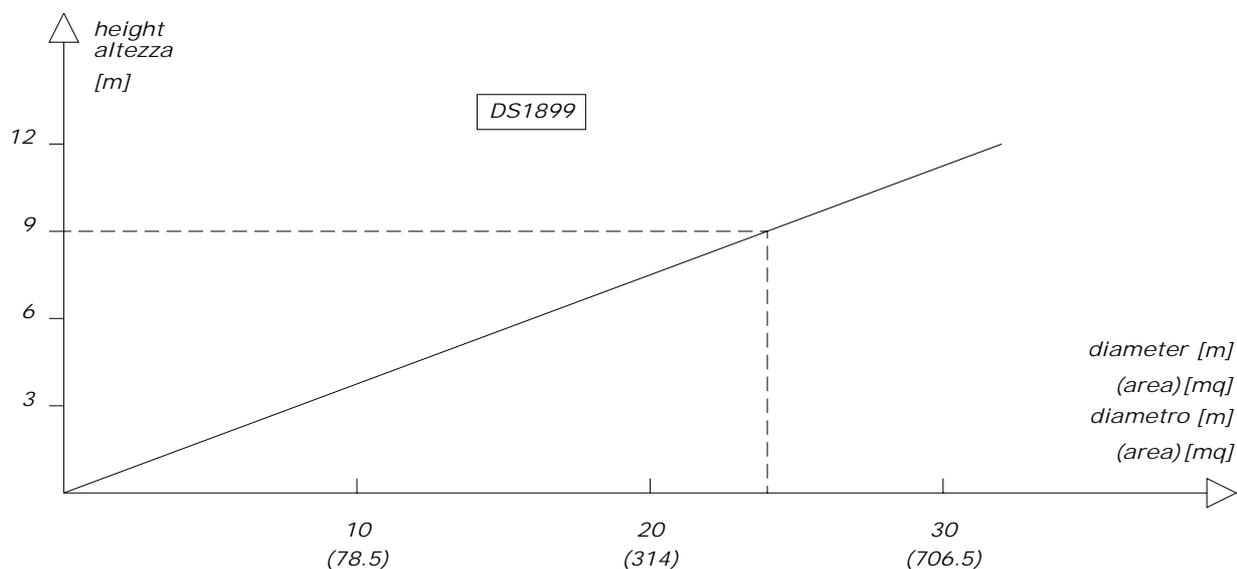

Fig. 1
**3** - The installation height is relative to the area to be protected considering that the detector's viewing range is about 120° and that the maximum distance for flame detection (for a 20 cm high gasoline flame with a target of 20 x 20 cm) it's 20 m. The fig. 1 e 2 diagrams indicate the diameter and the covered area related to the installation height.